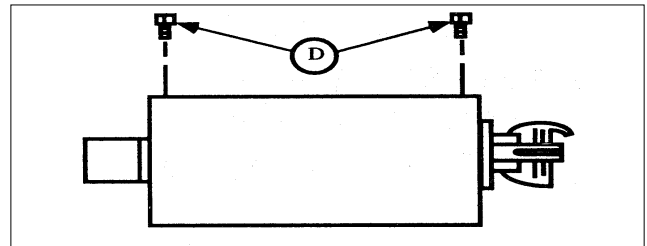

Figure 4-3
Remove screws (D) from top of burner housing and pull out burner (see Figure 4-3).